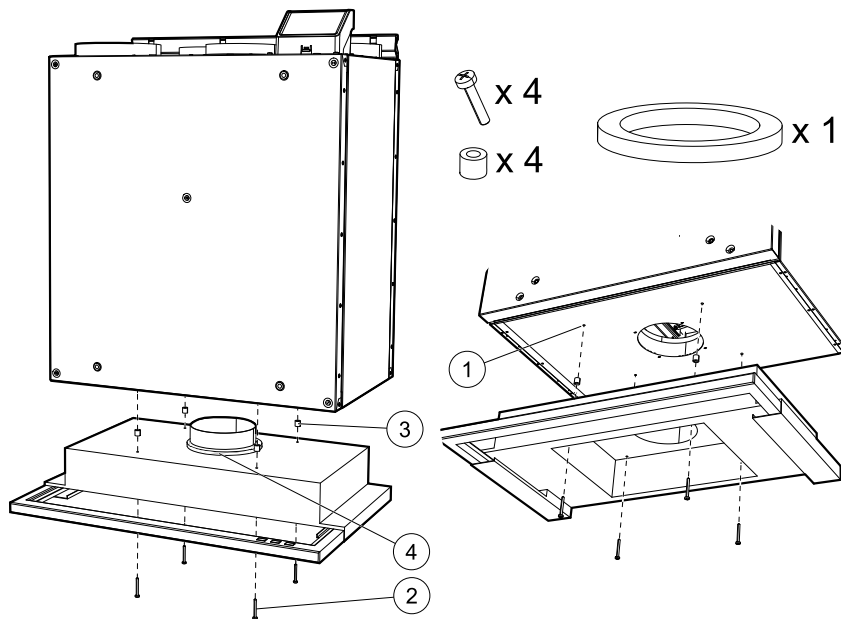

Fig. 11 Attaching the cooker hood directly to the unit
Insert included screws (figure 11, pos. 2) into the cooker hood holes, place included plastic spacers on the each protruding screw to prevent over-tightening (figure 11, pos. 3).
2. Place a circular insulation on the cooker hood connector to prevent air leaking (figure 11, pos. 4).
Screw the cooker hood directly to the bottom of the unit using prepared holes (figure 11, pos. 1).